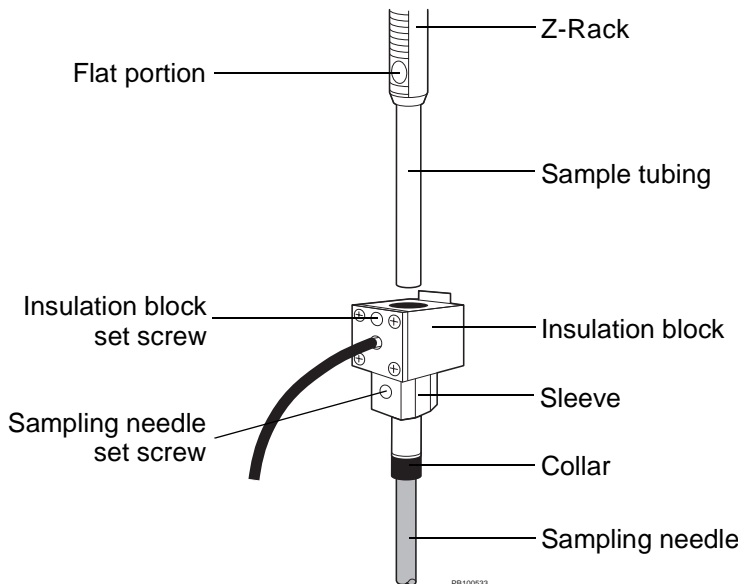

Figure 9-21 Replacing the Sampling Needle
3. If necessary, use a brush to remove debris from the teeth of the Z-Rack (see Figure 9-21).
2. Loosen the sampling needle set screw from the insulation block sleeve using a flat screwdriver (Figure 9-21).